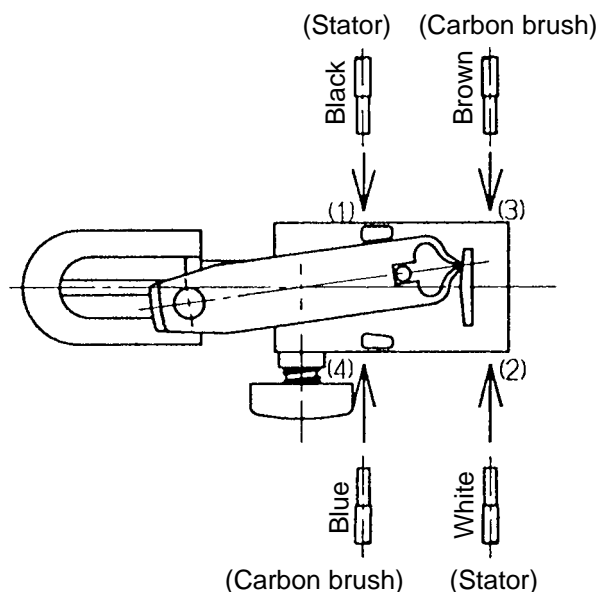

Fig. 28
(1) Wiring of reversing switch
Insert the lead wire (black) coming from the stator into the terminal (1) of the reversing switch, and the lead wire (white) into the terminal (2) as shown in Fig. 28. Insert the lead wire (brown) coming from the carbon brush into the terminal (3) and the lead wire (blue) into the terminal (4). After the insertion, pull each lead wire slightly to check the lead wires do not come off. To disconnect the lead wires, insert a small slotted-head screwdriver into the windows near the terminals and pull out the lead wires.